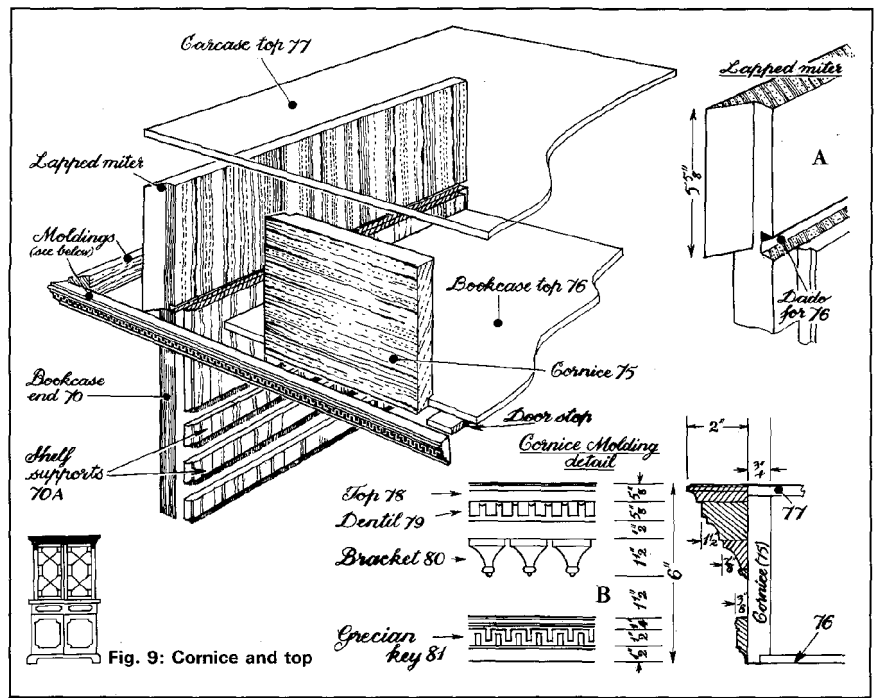

Fig. 9: Cornice and top
Figure 7: Main carcass top and bookcase door. The top of the main carcass (69) is fixed to the carcass ends by means of blind tenons on the main carcass end (7). Moldings (71) are attached to the top (shown in section at A) so that the removable bookcase section does not shift. The bookcase is made up of the two ends (70), the bottom (74), and the top. The ends extend up to include the cornice, and we shall be dealing with the upper part, including the top (76), in figure 9.
Figure 9: The cornice and top. The cornice (75) consists of a piece of mahogany lap-mitered to the top of the bookcase end (70). It is rabbeted along its lower edge to house the bookcase top. Note the dado for the top in the bookcase end, as shown at A.